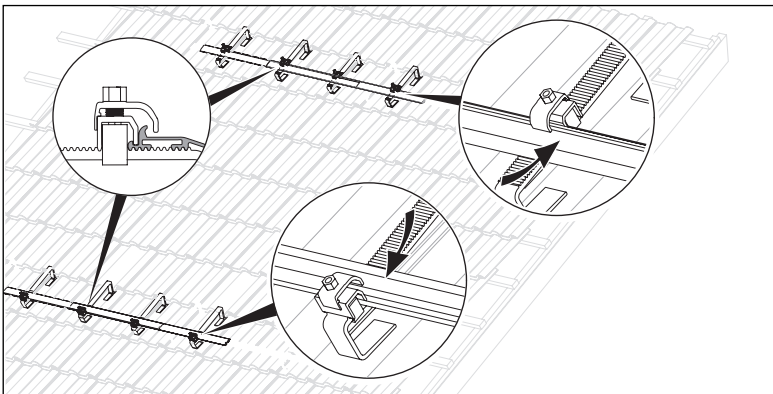

Fig. 6.8 Fixing the mounting rails
- Join the mounting rails and fix them with the clamping elements on the roof anchors (see **Fig. 6.8**).